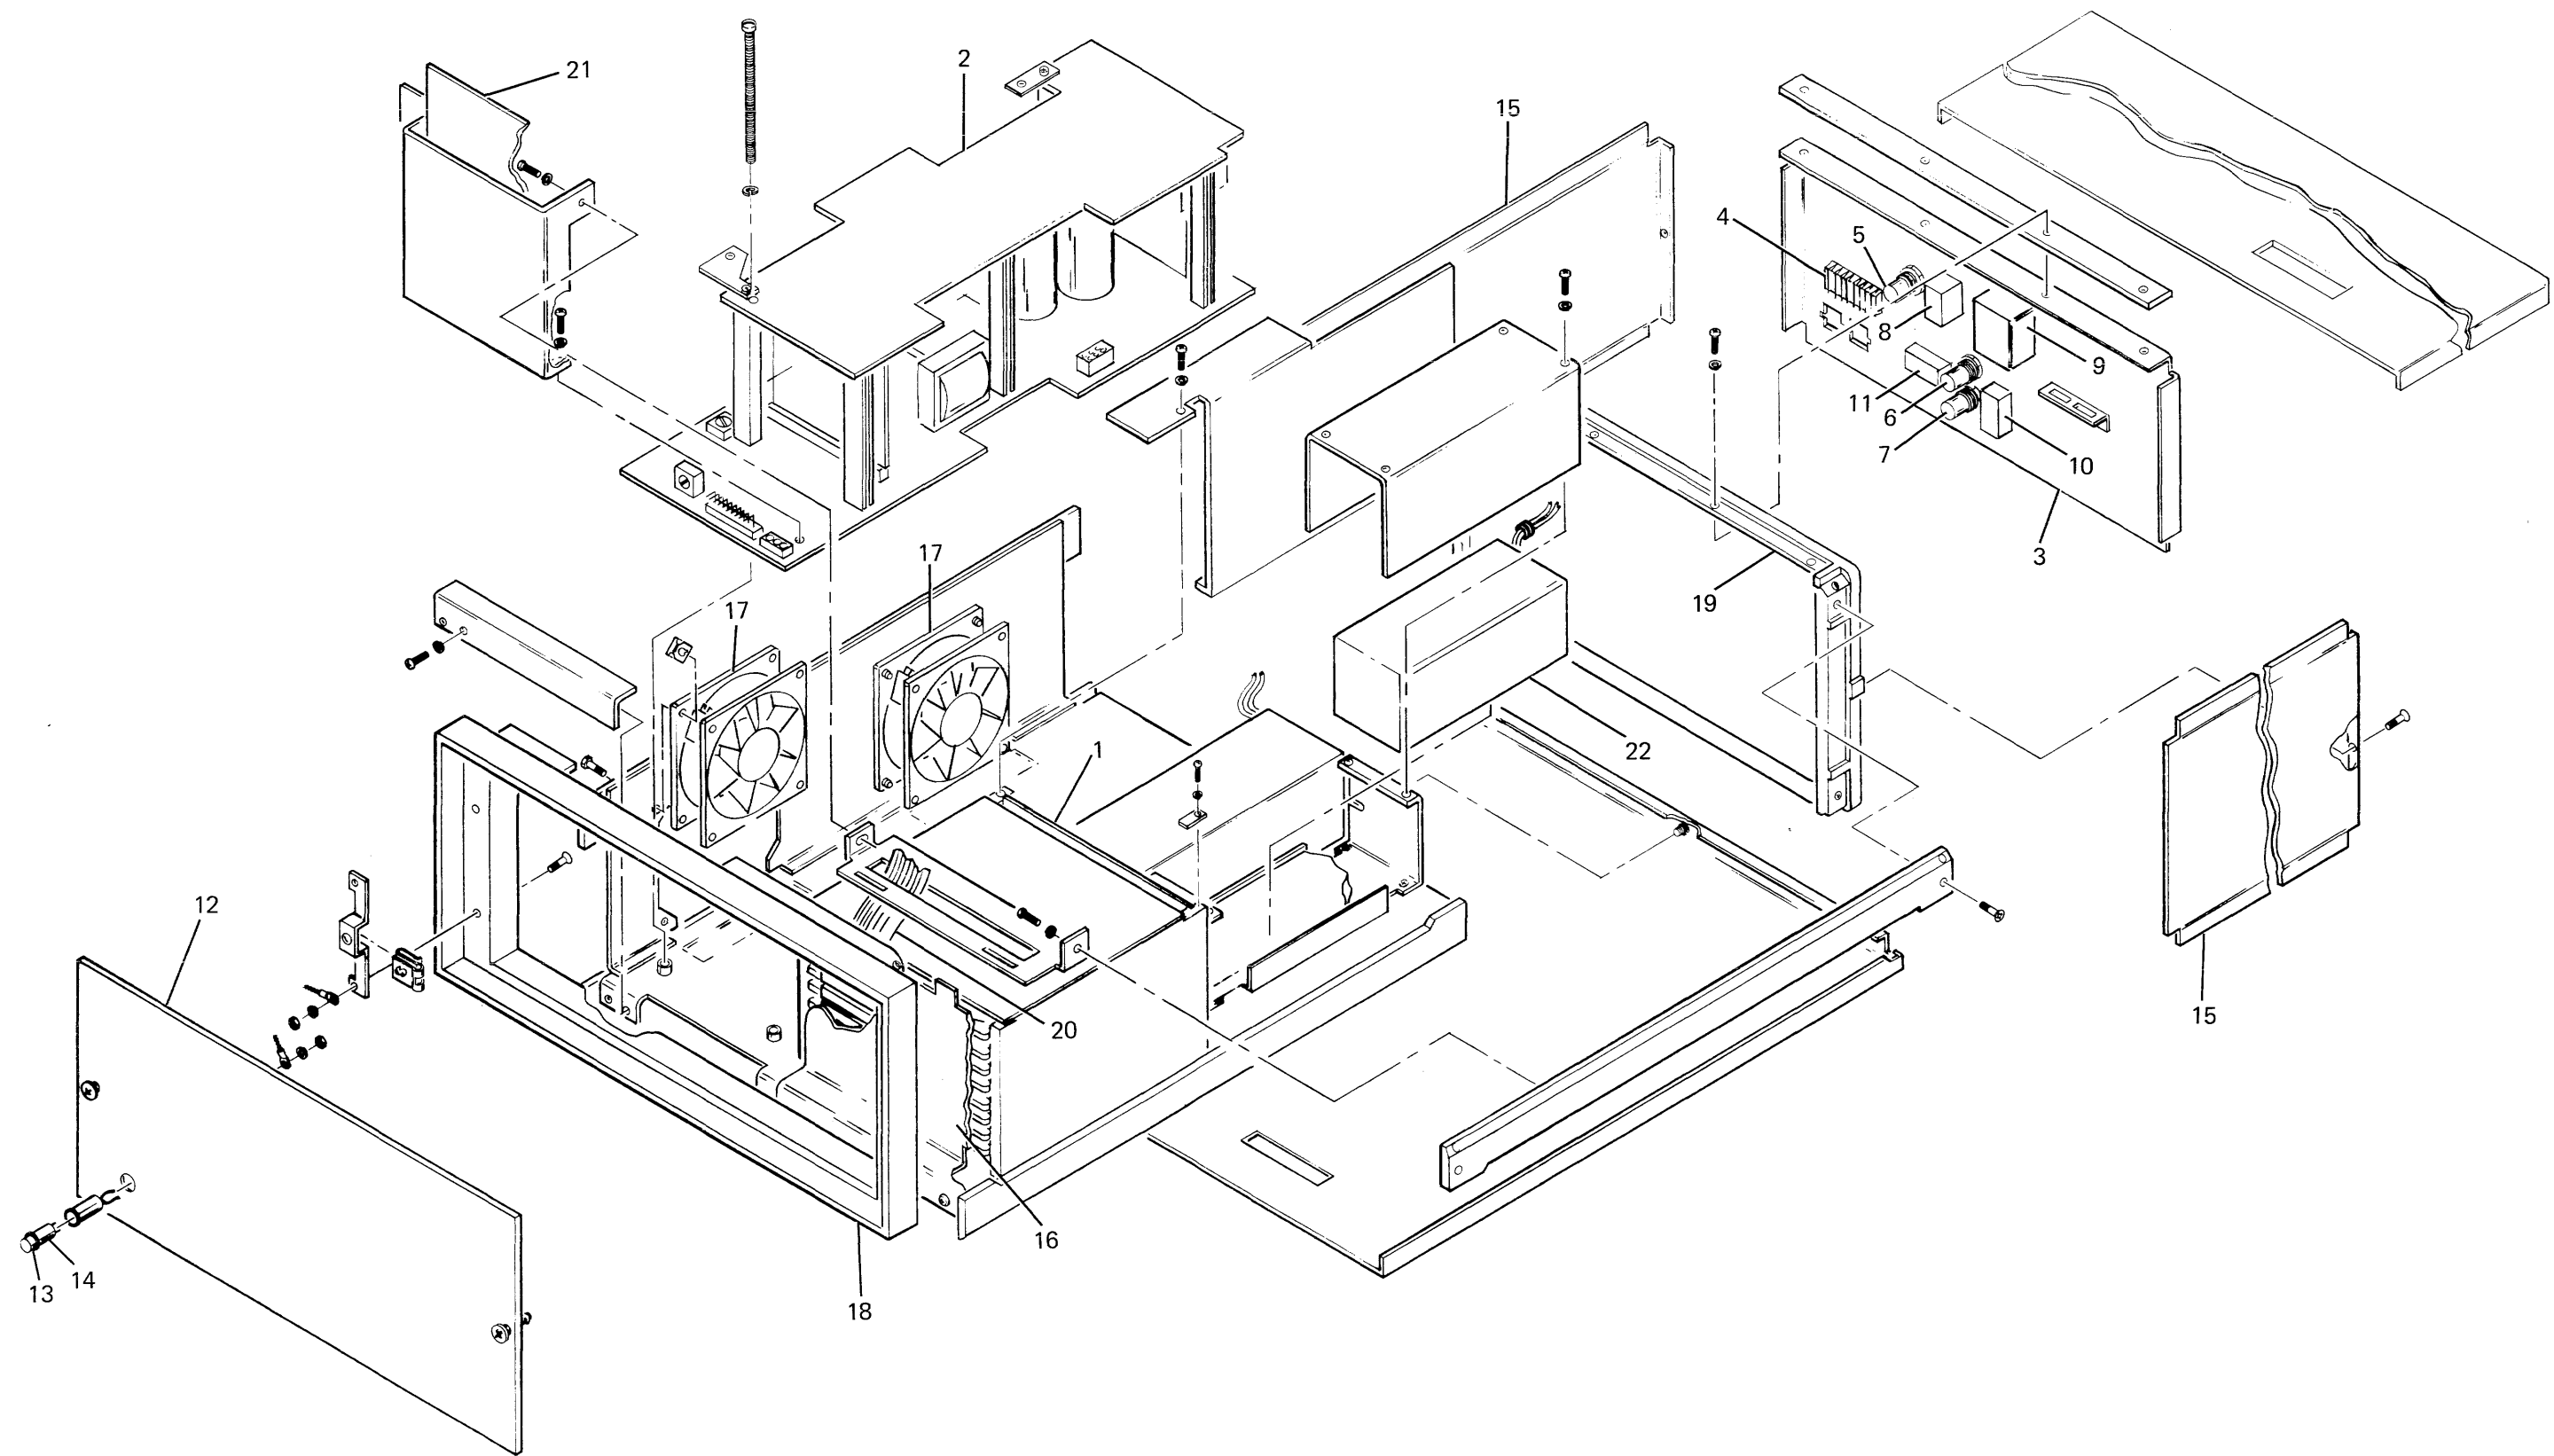

Figure 4-1. HP 12990A Memory Extender Exploded View
- e. Remove seven screws and lockwashers securing rear panel to main frame. Four of these screws are inside mainframe (figure 4-1) and three are along bottom of rear panel.
- c. Remove seven screws and lockwashers securing rear panel to mainframe. Four of these screws are inside mainframe (figure 4-1) and three are long bottom of rear panel.
The parts are listed in table 4-1 and illustrated in figure 4-1. The columns in table 4-1 provide the following information for each part: